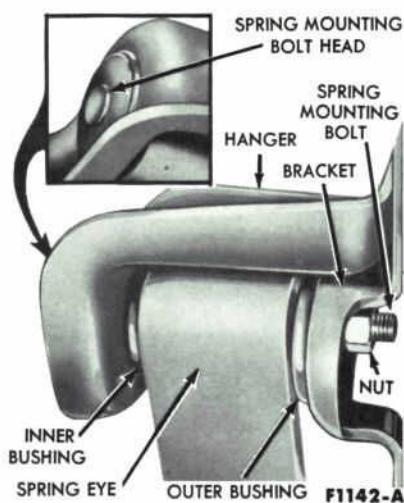

FIG. 116—Rear Spring Front Hanger Assembly
1. Remove the nut from the spring mounting bolt, and remove the bracket from the bolt and hanger (Fig. 116). Tap the spring mounting bolt out of the bushings and hanger, then separate the hanger from the spring. Remove the bushings.
2. Position the inner bushing and hanger to the spring eye. Position the outer bushing to the spring eye, then insert the spring mounting bolt (Fig. 116). Be sure that the bolt head is fully seated in the hanger (Inset, Fig. 116). Assemble the bracket to the spring mounting bolt and hanger, and install the nut. Torque the nut to specifications.